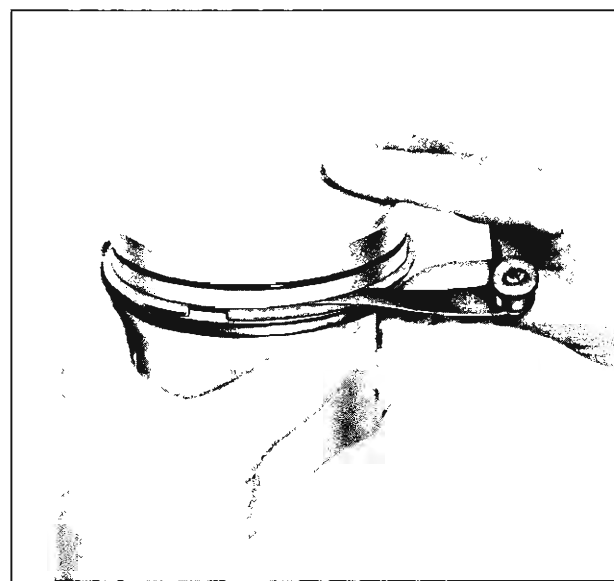

Fig. 173—Checking Groove Clearance
11. Proper clearance of the piston ring in its piston ring groove is very important in maintaining engine performance and in preventing excessive oil consumption. Therefore, when fitting new rings, the clearance between the top and bottom surfaces of the grooves should be inspected (fig. 173). Refer to *Engine Specifications* for correct clearances.